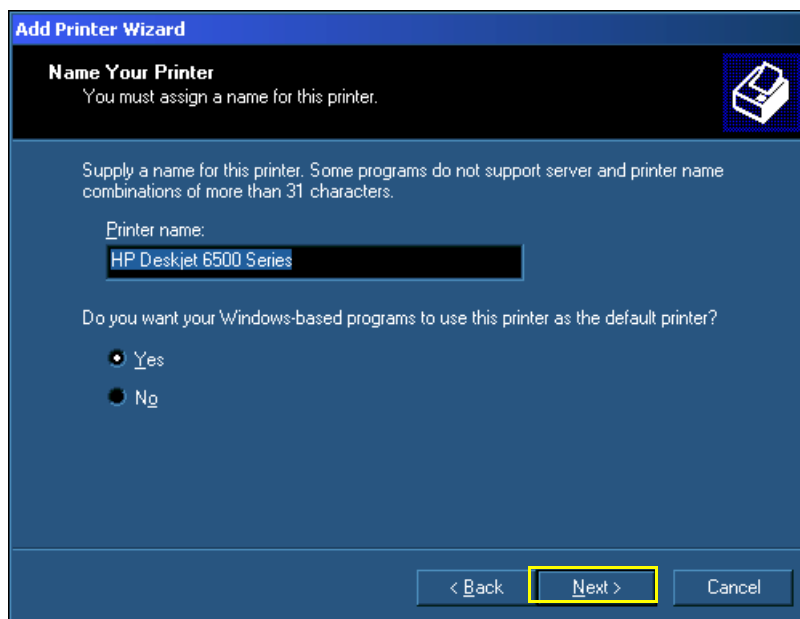

Figure 8-186 Choosing Default Printer
16.) When prompted, choose **Yes** if you want this printer to be the default printer - see Figure 8-186.